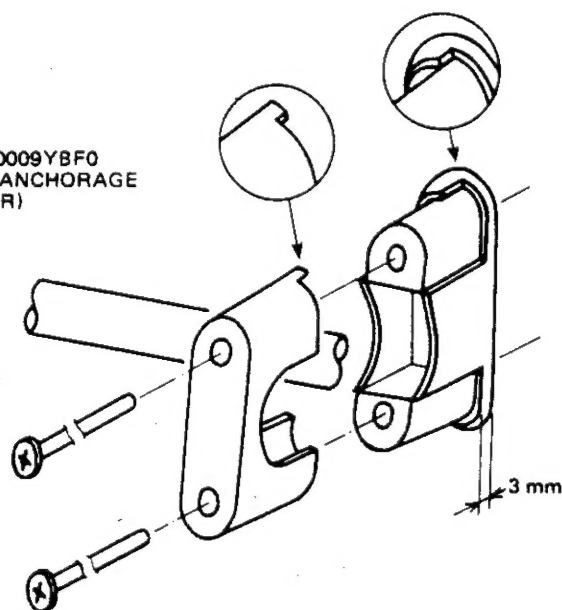

Figure 2. Wrong Fixing
2. If you fix them as shown in Figure 2, the mains supply cord will not be secured firmly.